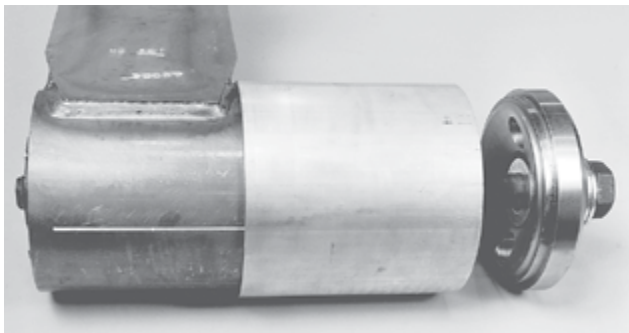

Figure 17: Mounting tool on bushing tube
7. **Insert** the hex head bolt of the partially assembled tool through the bushing until the transition tube rests squarely on the bushing tube (Figure 17).